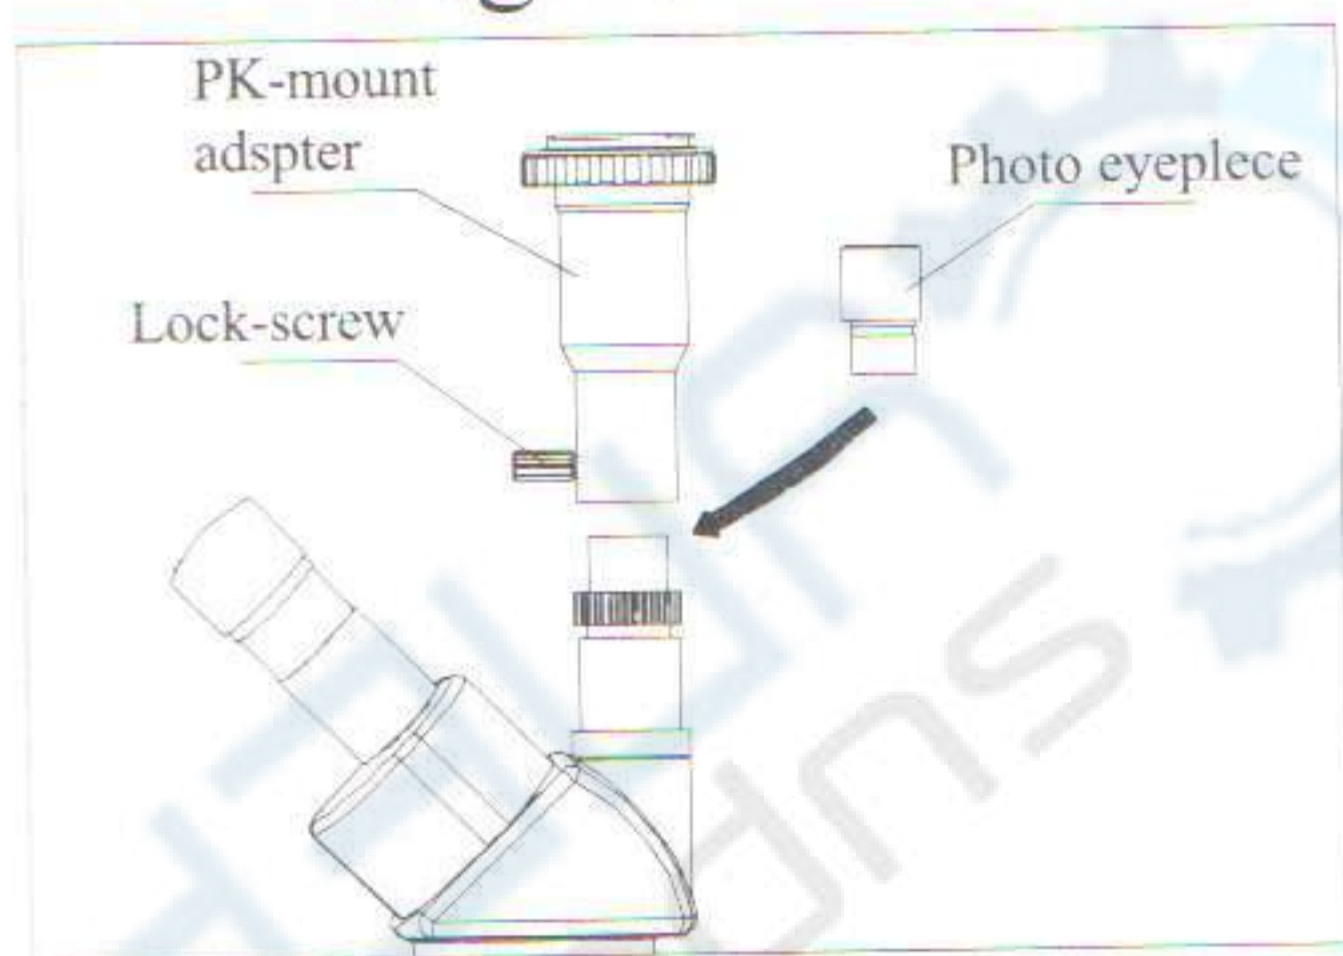

Fig. 8
- 2) Connect the PK-mount adapter with the photo eyepiece, and then tighten the lock-screw. (Fig. 8)